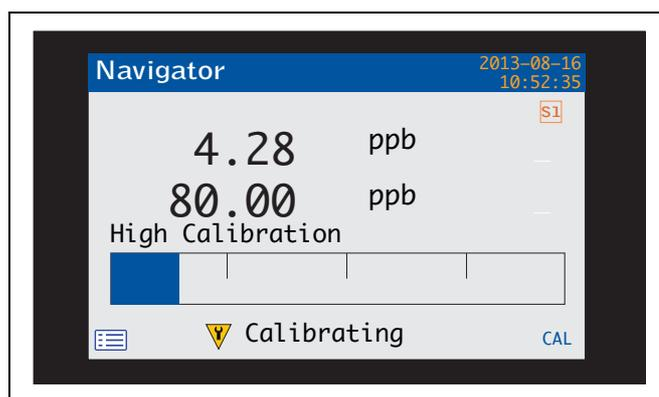

Fig. 5.1 Calibration View
- To exit the *Calibration* page, press the  key (below the OK prompt). Calibration continues and calibration progress can be monitored from the *Calibration View* – see Fig. 5.1.
If the *Calibration* page is exited by press the  key (below the OK prompt) before the calibration has completed, progress can be monitored from the *Calibration View* mode – see Fig. 5.1.